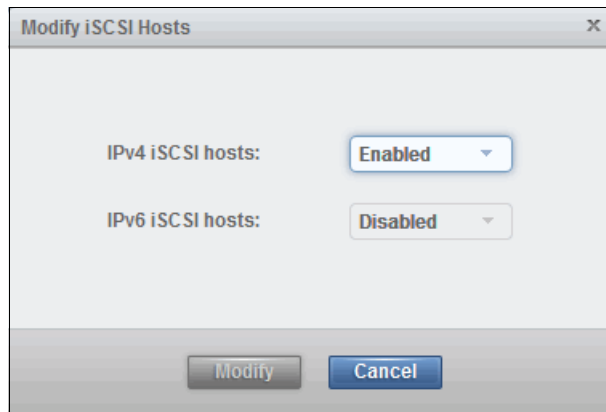

Figure 4-52 Enabling an Ethernet port for iSCSI host attachment
8. The window shown in Figure 4-52 should open. If the port is not enabled, do so using the drop-down box and click **Modify** to confirm.